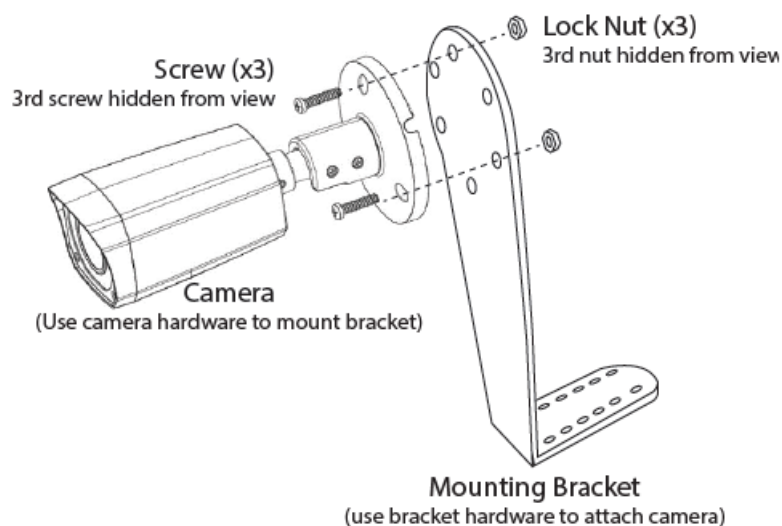

Fig. 2.1
- Use the hardware package that came with the mounting bracket to mount the camera to the mounting bracket, see Fig 2.1.